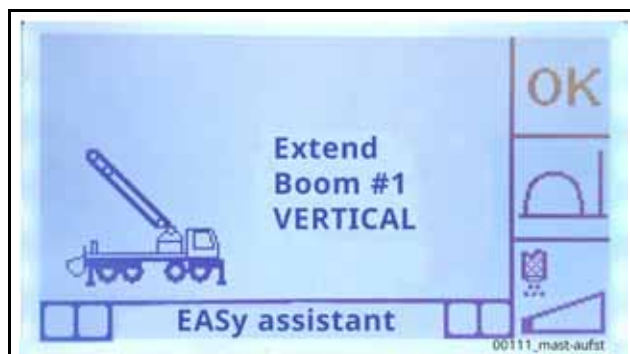

Fig. 440
- Fold up the placing boom so that boom section A can be raised vertically (**Fig. 440**).